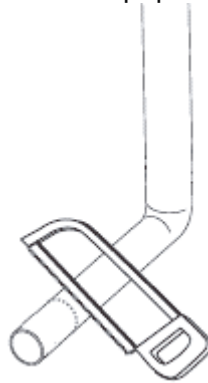

Fig. 11
9. Move the WC pan away and remove the flush pipe sealing washer (L) from the flush pipe (F). Remove the flush pipe and transfer the measurement made in Step 8 onto the end of the flush pipe. Remove the section marked using a hacksaw. The cut end of the flush pipe must be finished with sandpaper or a file. (See **Fig. 11**).